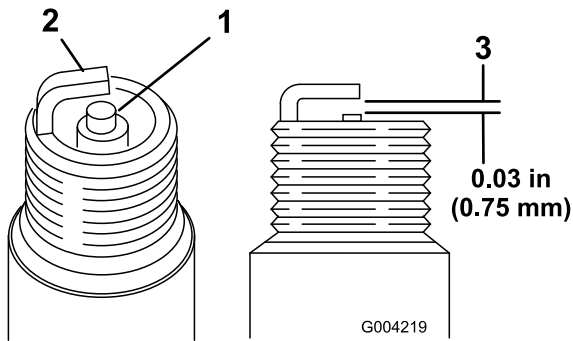

Figure 32
- Look at the center of both spark plugs (Figure 32). If you see light brown or gray on the insulator, the engine is operating properly. A black coating on the insulator usually means the air cleaner is dirty.
2. Check the gap between the center and side electrodes (Figure 32).
3. Bend the side electrode (Figure 32) if the gap is not correct.